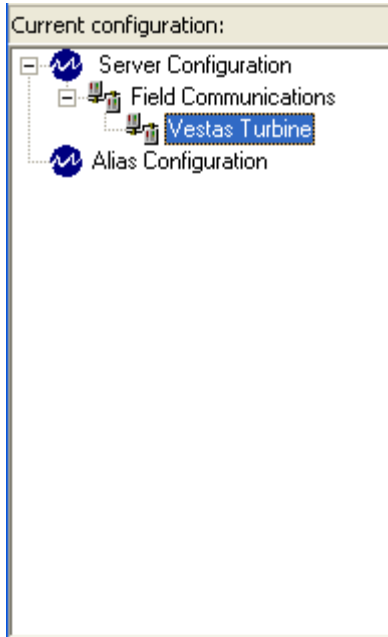

Figure 15 - New Vestas Turbine Object
- Click on the **OK** button. The object is created and appears as a child of the selected **Field Communications** object as shown in Figure 15.